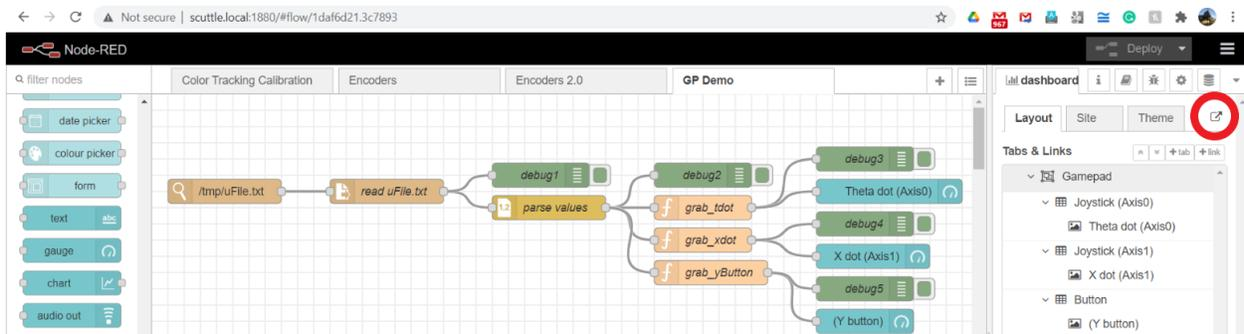
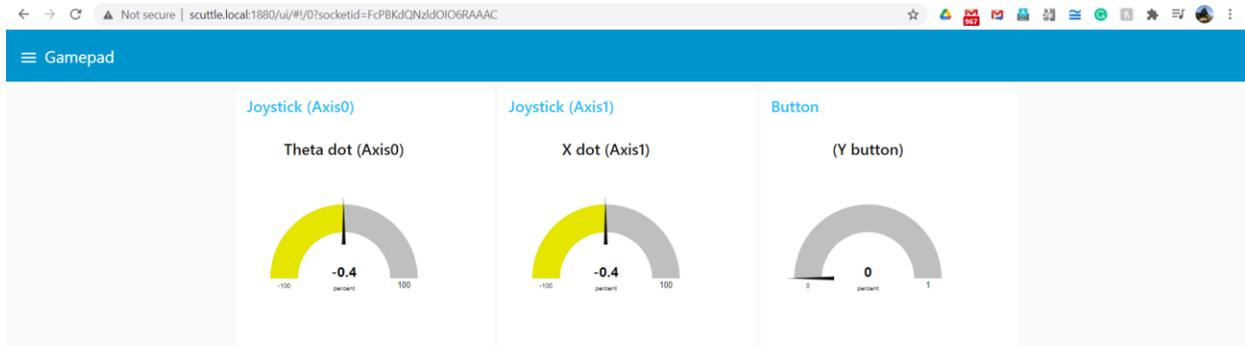

Figure 32
Figure 33
- c. It should create a flow that looks like Figure 32 below:
- d. Now click the "Deploy" button in the upper right of NodeRed and then click the button that is circled in red within Figure 32, and it should open a new tab in your browser with three gauges like Figure 33 below.